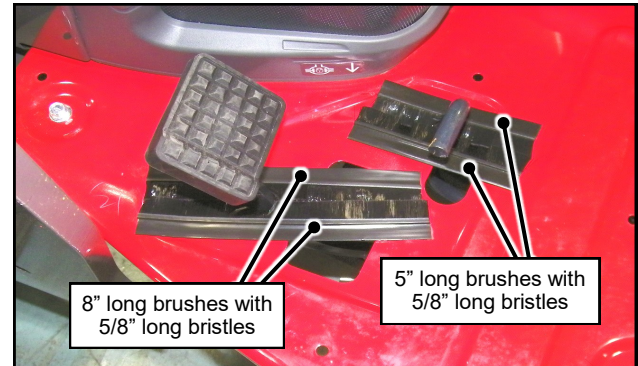

Fig. 2.2 (Left Floorboard Brushes)
- 2.2 Per fig. 2.2, remove the protective film from the pressure sensitive adhesive and adhere the two 8" long brushes (5/8" long bristles) to either side of the Brake Pedal, oriented as shown.